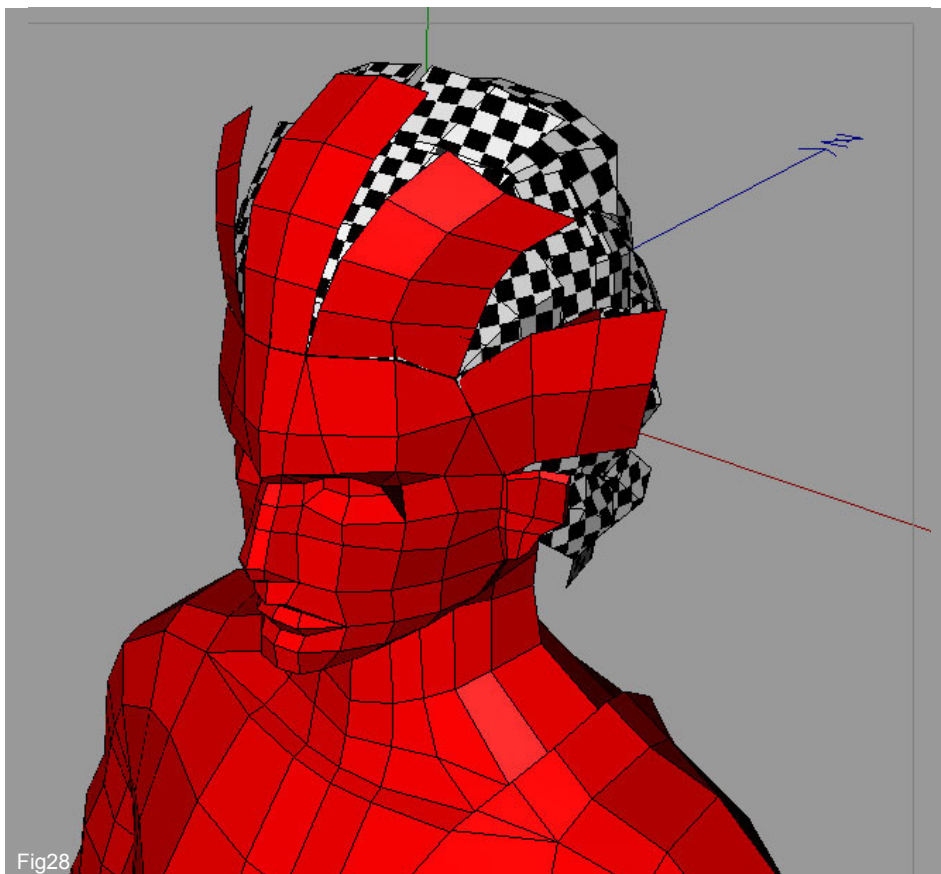

Fig28
28. When the hair section is mapped you can attach the front three sections to the main body as shown in red in Fig 28 but leave the rest of the hair pieces as separate objects; the reason for which shall be revealed next. Select the front three groups of poly's and split them from the hair. Remember to delete those poly's from the hair mesh. Once you got the new object with those three sections add the Symmetry, make it editable then connect them to the body.